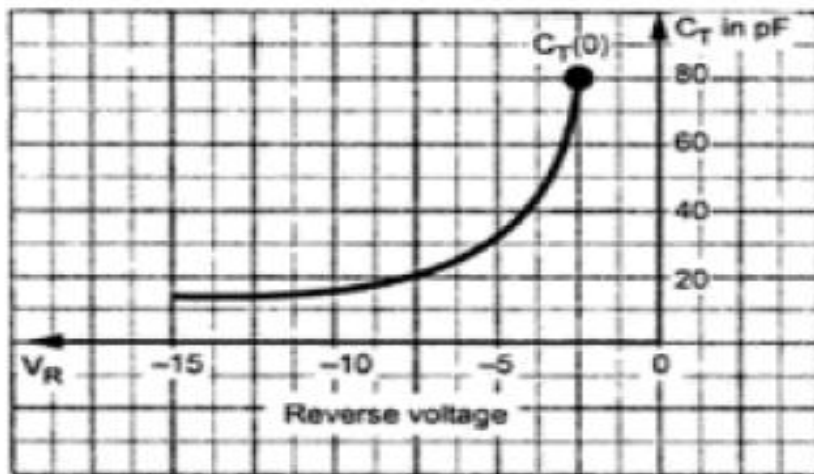

Fig. 1.15 Variation of C_T versus Reverse voltage
- As the reverse bias applied to the diode increases, the width of the depletion region (W) increases. Thus the transition capacitance C_T decreases.
- In short, the capacitance can be controlled by the applied voltage. The variation of C_T with respect to the applied reverse bias voltage is shown in the Fig. 1.15.